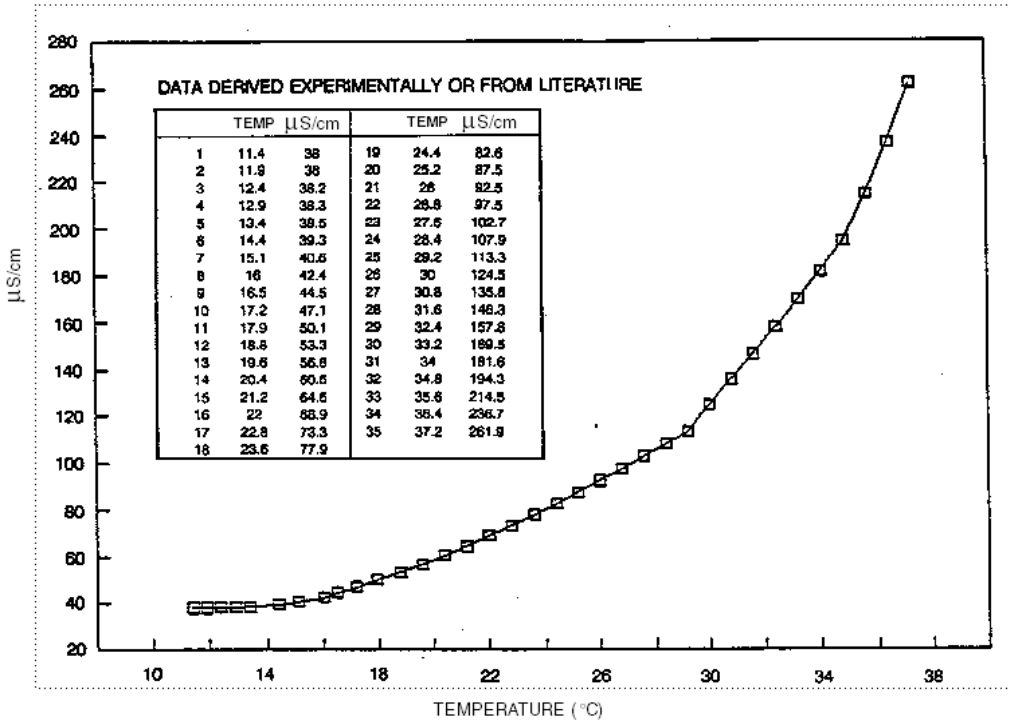
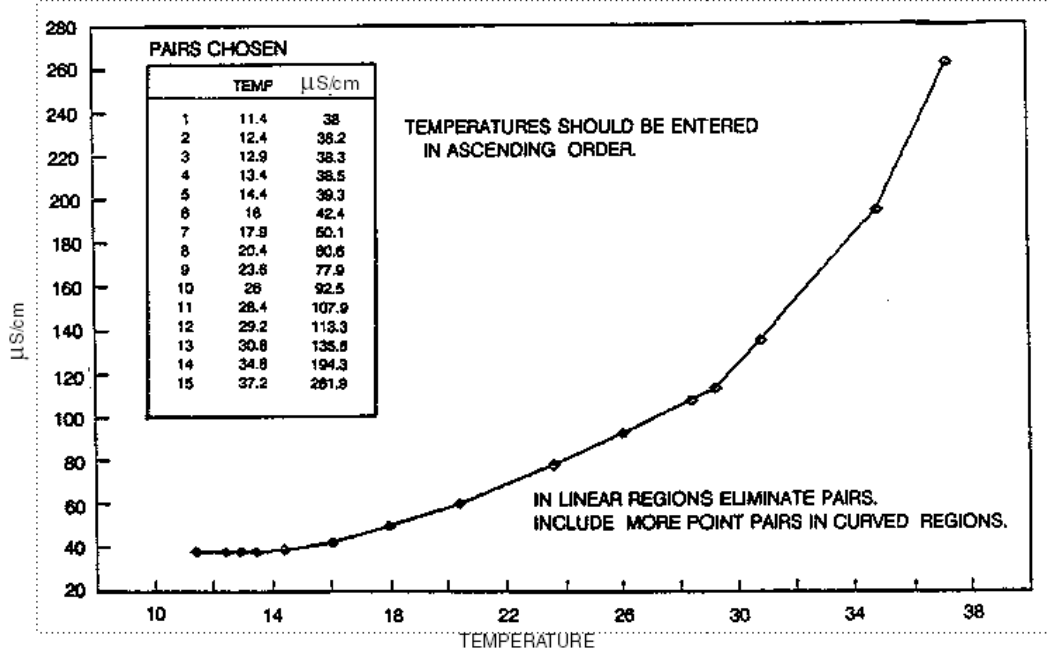

Figure 19. Reference Conductivity vs. Temperature Data
Figure 20. Configured Conductivity vs. Temperature Data
**Ultra Pure H2O** assumes the only contaminant in ultra pure water to be NaCl, separates the conductivity at the temperature of measurement into contributions from ultra pure water and NaCl, converts these contributions to their equivalents at 25°C, combines them, and outputs the equivalent resistivity at 25°C. The temperature curve for ultra pure water is that of Light et al. (Electrochemical and Solid-State Letters, 8 (1) E16-E19 (2005)).
**Custom** If you selected this compensation, the prompts ask you to specify a reference temperature (**Ref Temp**) and a number of points (**Num of Pts**) to plot a compensation curve. The process specific compensation data must be generated or extracted in advance of entering it into the analyzer. We suggest that the data be plotted graphically as well as tabularly to prepare it for entry into your analyzer. See Figure 19.
A maximum or minimum temperature difference between successive temperatures is not required. The intervals do not have to be evenly spaced. We suggest 2 or 3 points be used in linear regions and more data points be used in curved regions. See Figure 19 and Figure 20.
In the example used in Figure 19 and Figure 20, the 35 reference points were reduced to 15 configured points. The configuration procedure would have been as follows: